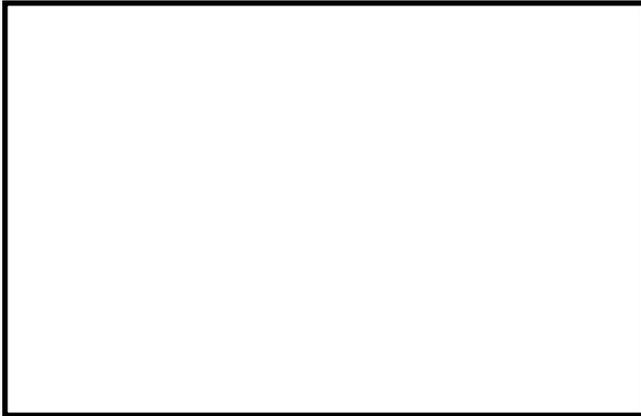

Figure 17. Toggle Latch (Latched)
1. Push in the toggle latch release button while pulling back the toggle latch. See figure 17.